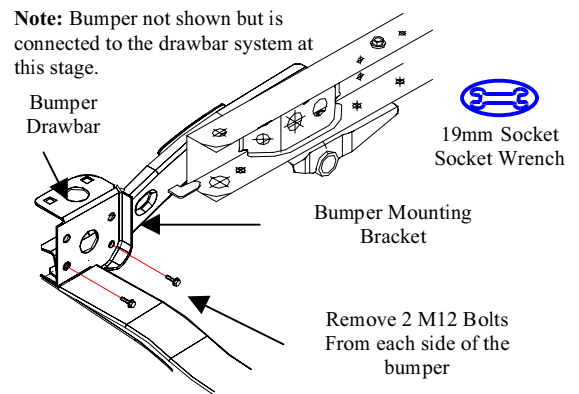

Fig. B1
-  1. Remove the two (2) M12 bolts (save for later re-use) from each side of the bumper that connect the bumper tie-plate to the bumper mounting brackets. (Fig. B1)